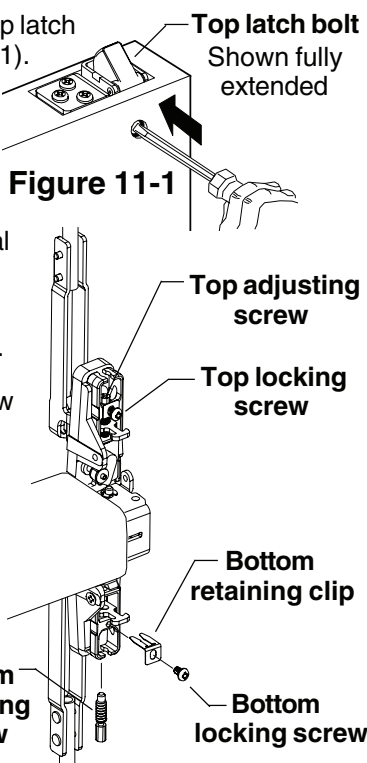

Figure 11-2
- B.** Loosen bottom locking screw (Figure 11-2).
- J.** Install bottom adjusting screw, retaining clip, and locking screw (Figure 11-2).